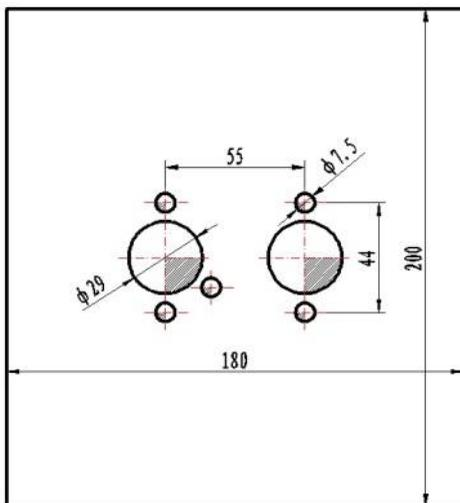

Fig 12
4.2.4 If the sickness of the installation panel <math>1.5\text{mm}</math> a mounting plate may need. Between mounting plate and the car body must also be sealed (use glass glue(Fig.12)).